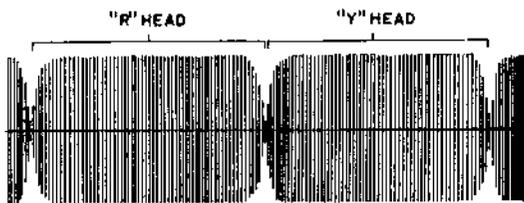
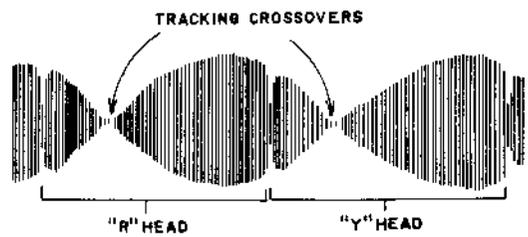
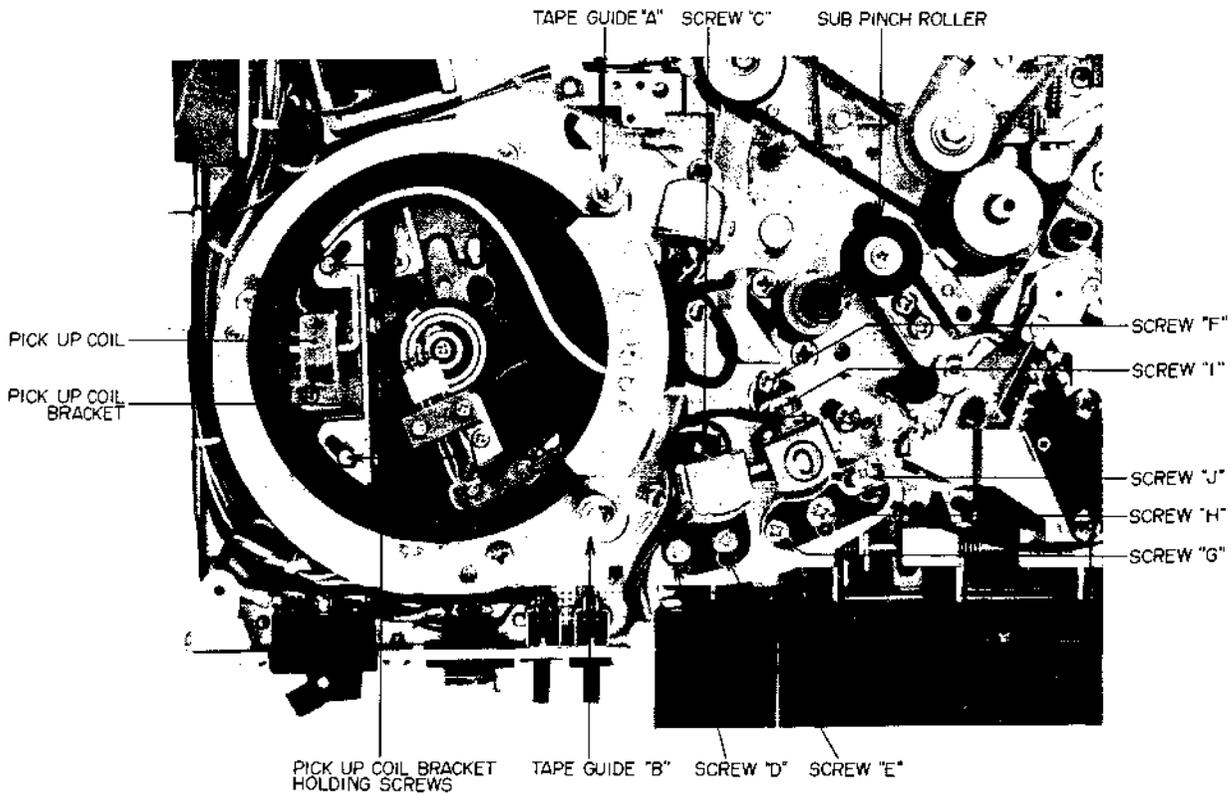

Fig. 1-18
Fig. 1-19
Fig. 1-20
- b) Connect an oscilloscope to video amp P.C. Board test point TP-5 (Refer to Fig. 2-30) Playback a video reference tape and while observing RF Envelope, adjust the height of tape guides "A" and "B" (Refer to Fig. 1-20) to obtain as square a waveform as possible as shown in Fig. 1-18.
- c) Loosen screws "I" and "J" (Refer to Fig. 1-20). Move CTL head to left and right and fix at position at which RF Envelope displays maximum amplitude and is square. If even by adjustment of the CTL head, tracking cross-over appears as shown in Fig. 1-19, readjust tape guides "A" and "B".